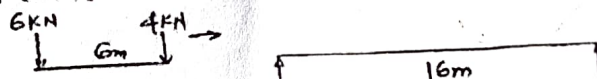

Fig.Q3(a)
- 3 a. Two point loads 4 kN and 6 kN spaced 6m apart cross a girder of 16m span, the 4 kN load leading from left to right. Construct the maximum SF and BM diagrams stating the absolute maximum values. [Fig.Q3(a)].